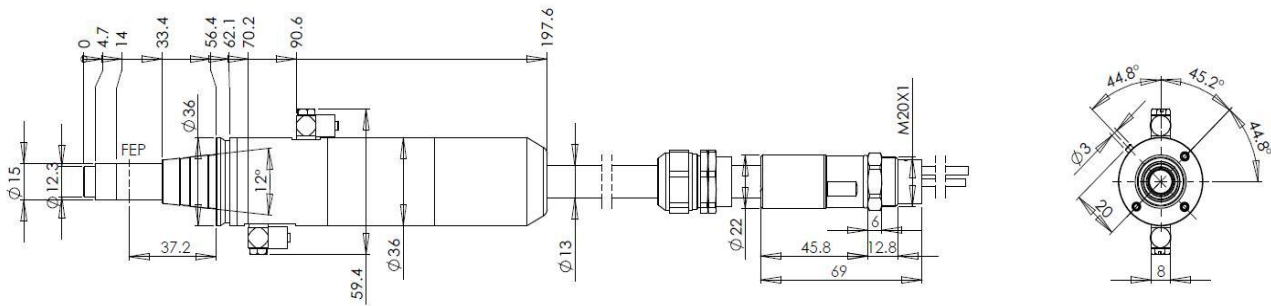

Figure 5 External dimensions of the RFL-QD fiber delivery cable connector
2) RFL-C8000XZ/C10000XZ/C12000XZ uses the RFL-QD model cable connector, and the external dimensions of the output optical cable connector are shown in Figure 5: